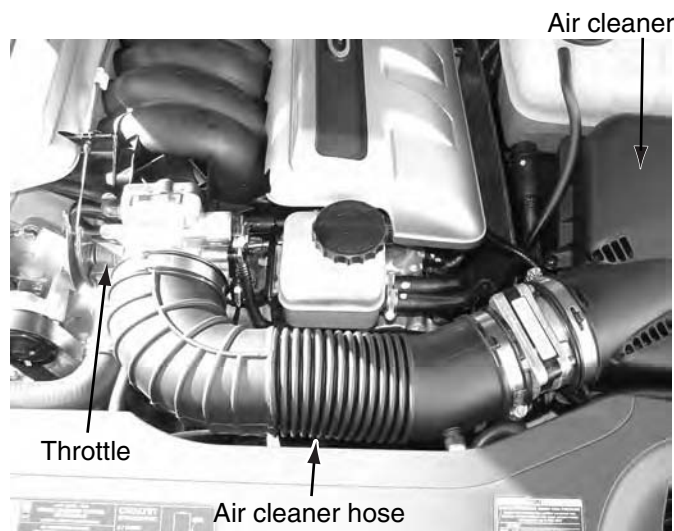

FIGURE 4.10 Remove the air cleaner and hose. Be careful not to crack the hose. (Courtesy of Tim Gilles)
1. **Remove the air cleaner and label all wires and vacuum lines.** The air cleaner on a typical port fuel injected engine is located off to the side and is connected to the fuel system by a molded hose (Figure 4.10). These hoses can become fragile with age and can be expensive to replace. A broken hose can cause drivability complaints on some types of fuel injection and can allow dirty air to enter the engine on all systems.